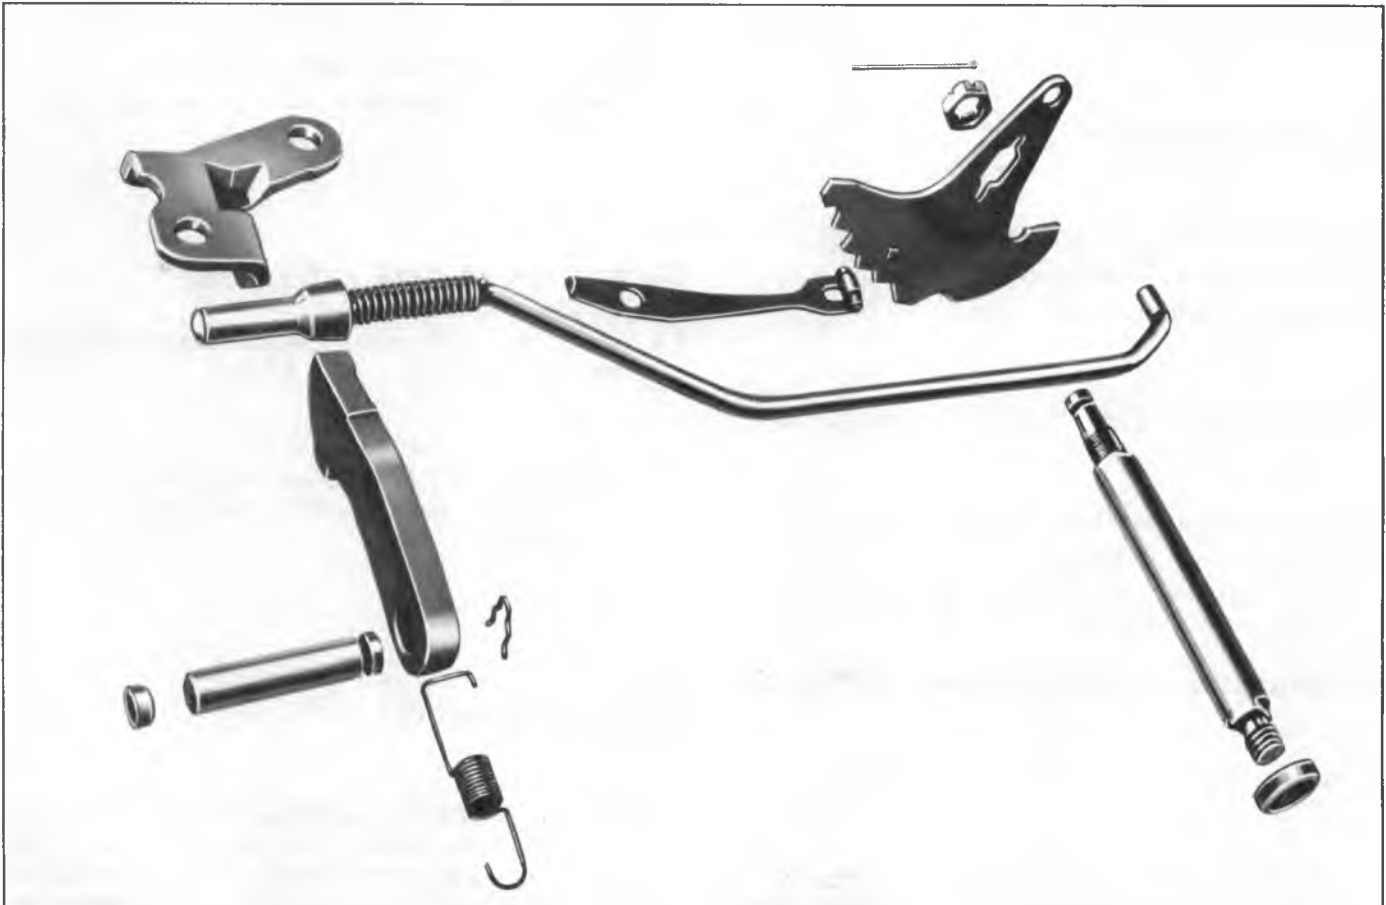

Fig. 111T-Manual and Parking Linkage-Exploded View
1. Inspect parking actuator rod for cracks, or broken spring retainer lugs (fig. 111T).